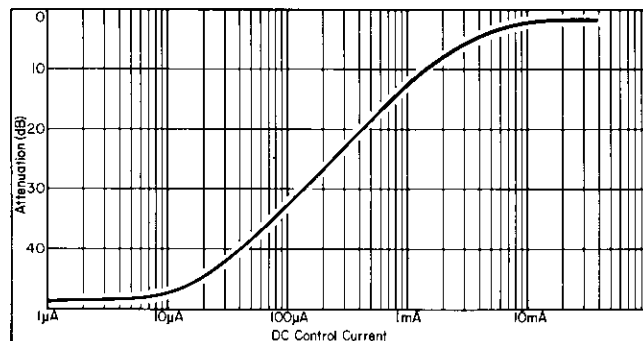

Figure 5. Typical Attenuation
18. Figure 5 shows attenuation and relative harmonic levels characteristic of a typical Model 10534A Mixer when used as a current-controlled attenuator. In this example input signals are 30 MHz at +0 dBm at L and 0 to 40 ma dc control current at X.